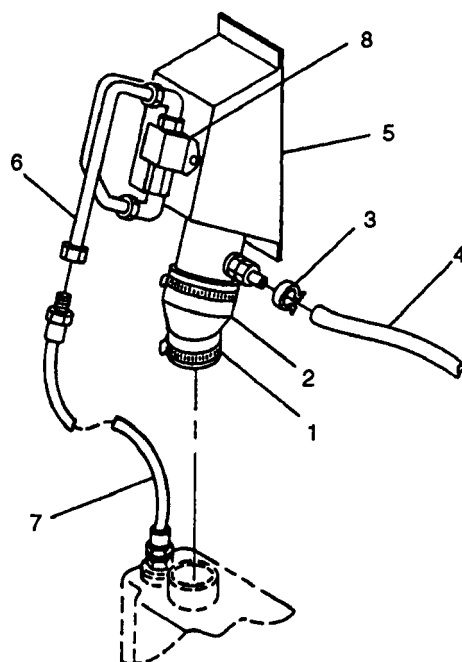

FIGURE 3-7. Fuel Filler Hoses and Panel Assembly
- z. Loosen clamp (1, FIGURE 3-7) securing hose (2) to fuel tank. Cap openings.
- ai. Connect auxiliary fuel pump (8, FIGURE 3-7) electrical connector and remove tag.
- aj. Remove caps and connect fuel hose (7) to fuel line (6).
- ak. Remove caps and connect hose (4) to fuel filler panel assembly (5) and tighten clamp (3).
- al. Remove caps and connect hose (2) to fuel tank and tighten clamp (1).